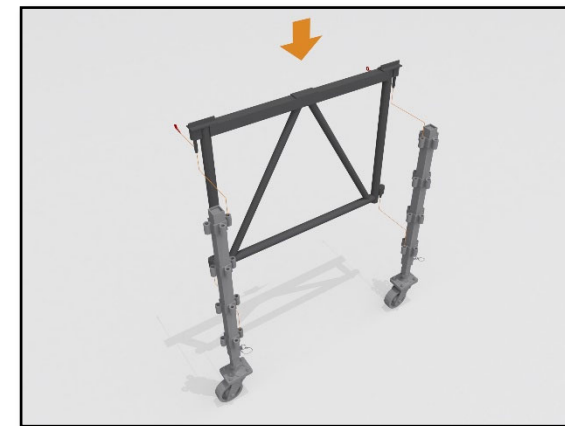

Fig. 18 – Gate onto Node Post
9.1.4.1 Stand two Node Posts upright and engage the two top connections of the Gate into the top holes of the Node Post. *Fig. 18 – Gate onto Node Post*